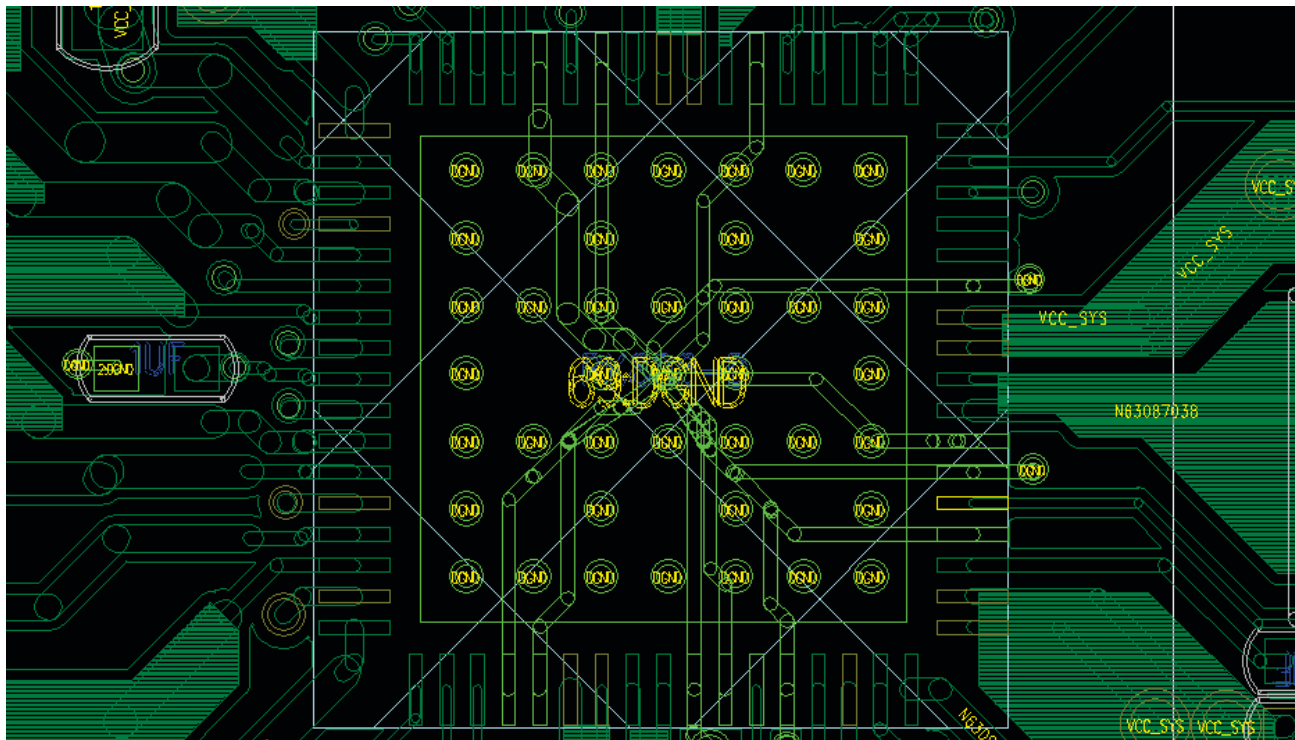

Figure 4-60 PMIC EPAD Vias
- The 10mR current sampling resistor of RK818-3 should be placed close to battery connector. The SNSN / SNSP signals should be routed according to differential pair's rules, no impedance requirements. It is important to note that since the SNSN is a negative side of the 10mR resistor, the 0R resistor connected to the SNSN can not be directly connected to another GND and grounded via the ground end of the 10mR resistor (Shown as Figure 4-60).